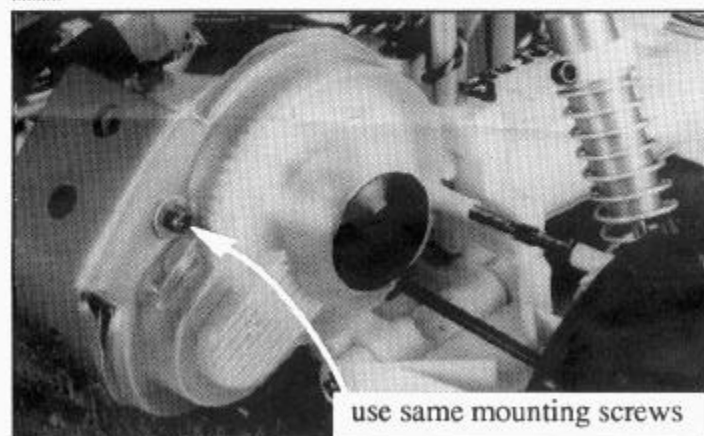

fig. 2
STEP 4 Mount your new dust cover using the same mounting screws and washers already on your car (figure 2).
STEP 5 Firmly push the black cap in until it pops into place, as shown in figure 2. Make adjustments to your dif after popping off the cap with your fingernails or screwdriver.